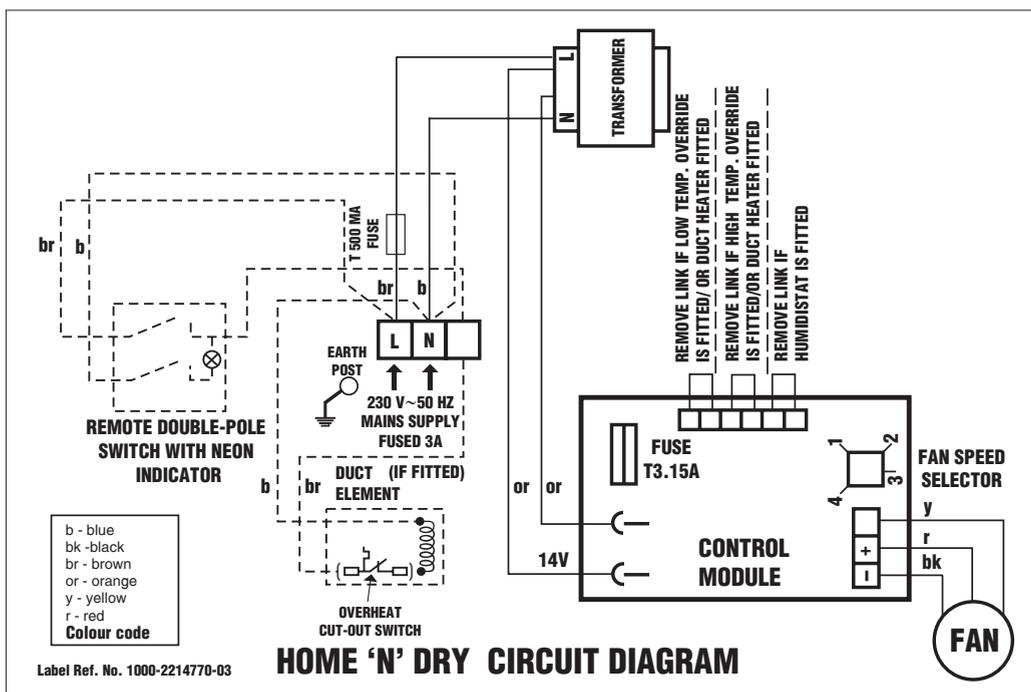

Fig. 5
- 3.10.2 Using sheathed cable (not supplied) with a minimum core size of 0.75mm², wire the switch as shown in fig.5
- 3.10.4 Wire the remote switch as shown in the circuit diagram (fig. 5)